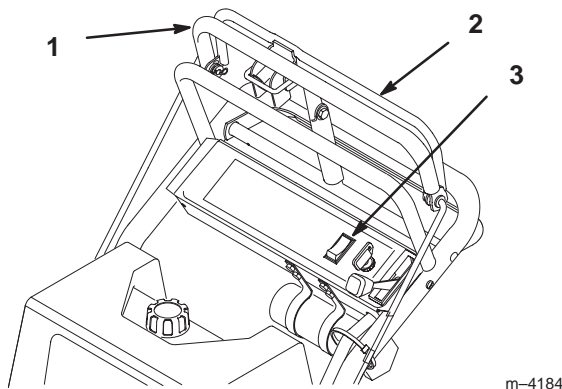

Figure 13
1. Pull on the upper control bar to stop the machine (Fig. 13).
1. Releasing blade control bail to disengage blades (PTO) (Fig. 13).